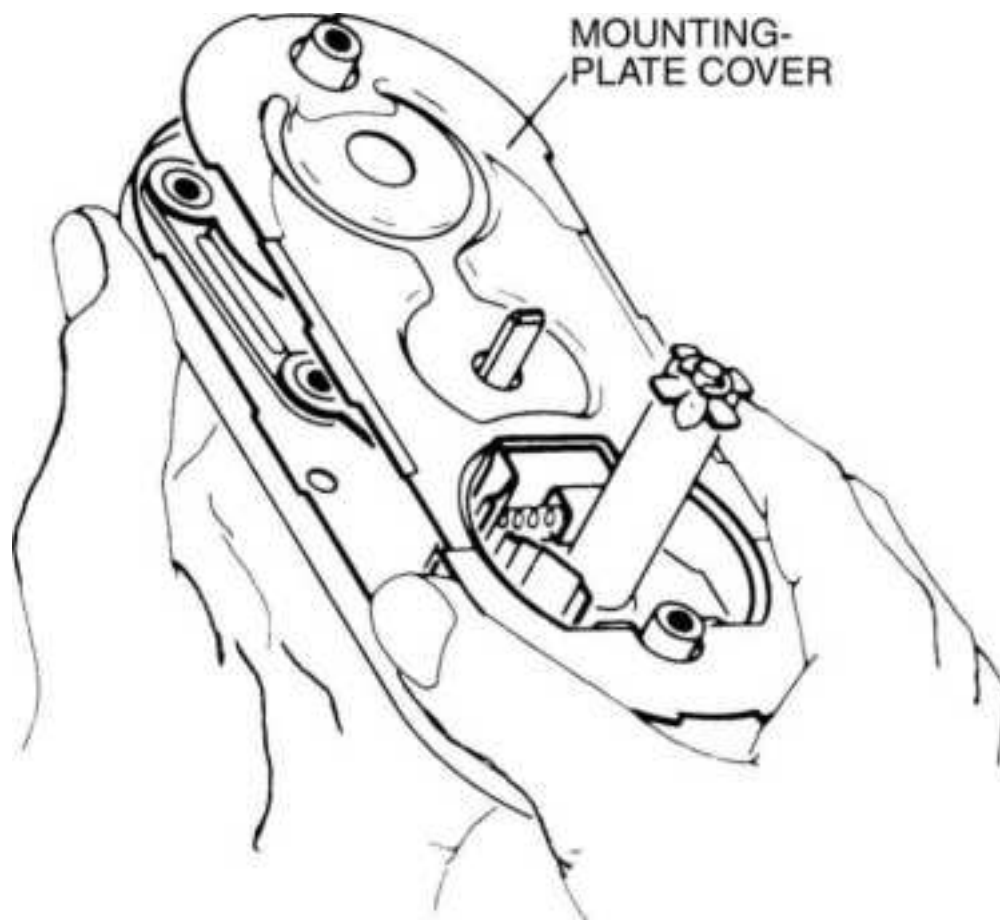

**Figure 13.110** Right-hand conversion, Step 18.
18. Replace the mounting-plate cover (Fig. 13.110 ).